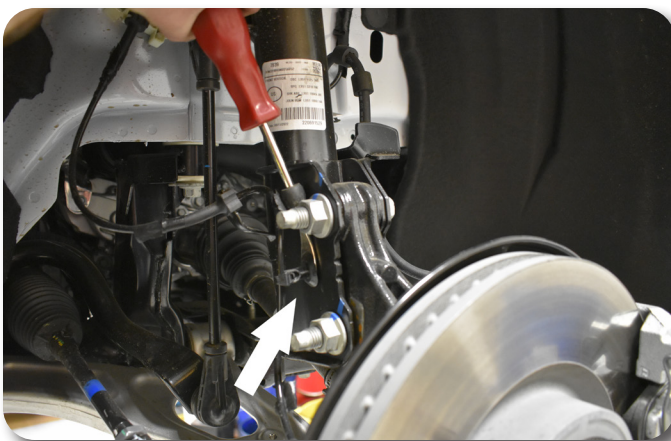

Figure 5A
9. Disconnect the front brake line and ABS line from the strut and steering knuckle. Figure 5A/5B/5C